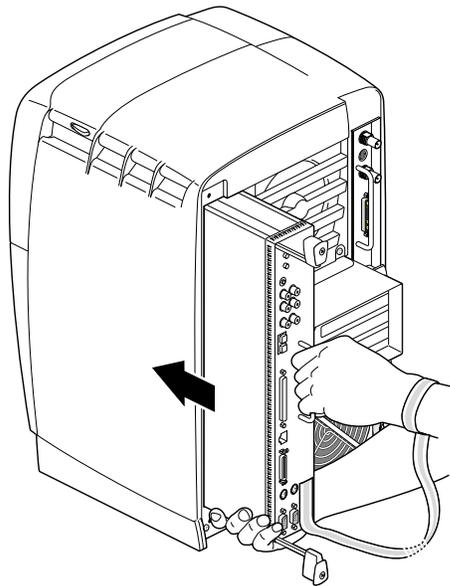

Figure 2-23 Supporting the System Module
2. Grasp the system module by its immovable handle and support it with one hand as you slide it into the chassis, as shown in Figure 2-23. Then push the system module completely into the chassis (both sliding handles protrude).